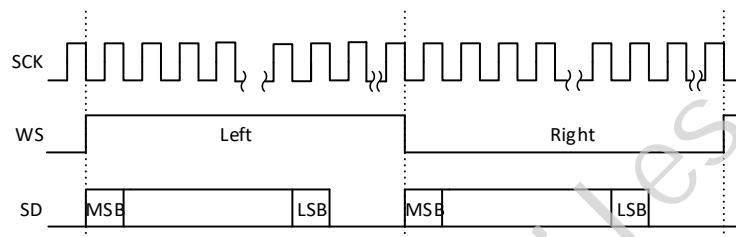

Fig 22-8 Left-justified standard
- Serial data are left-justified. See Fig 22-8.